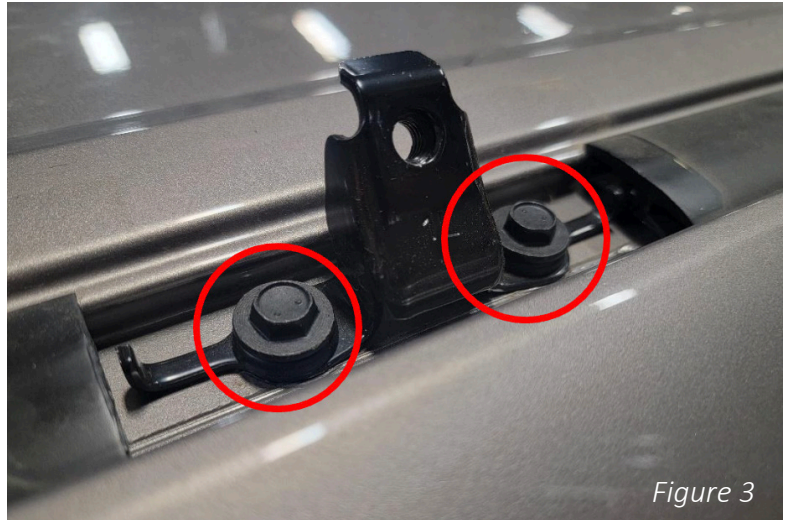

Figure 3
3. Use a 12mm socket to remove the 2x bolts holding the middle OE roof rack brackets onto the vehicle. Figure 3.